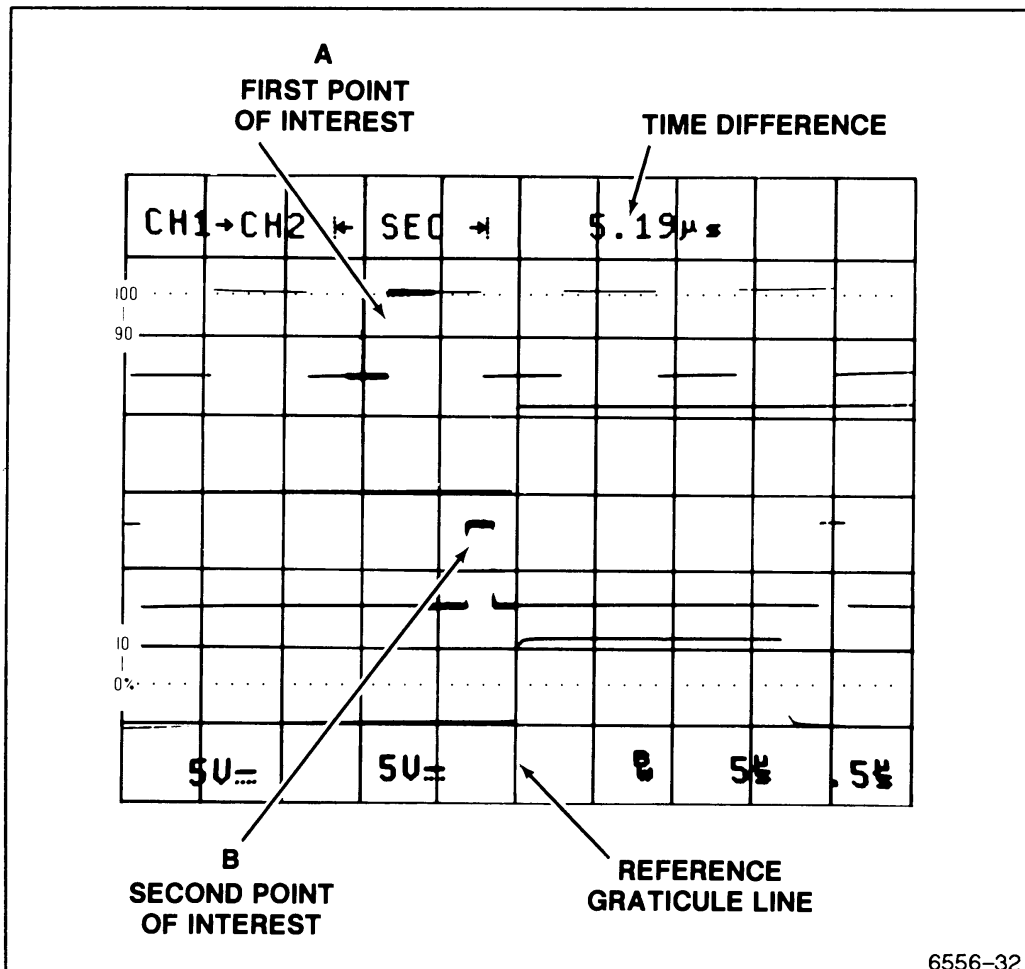

Figure 5-6. Time difference between the two delays.
7. Set the ← OR DELAY control so that the reference-delay intensified zone is positioned at the first point of interest (point A, Figure 5-6) and the B sweep display of that point is at the center vertical graticule line.
8. Set the →Δ control so that the delta-delay intensified zone is positioned at the second point of interest (point B, Figure 5-6) and the B sweep display of that point is at the center graticule line. The time difference between the two points of interest is displayed at the top of the screen.